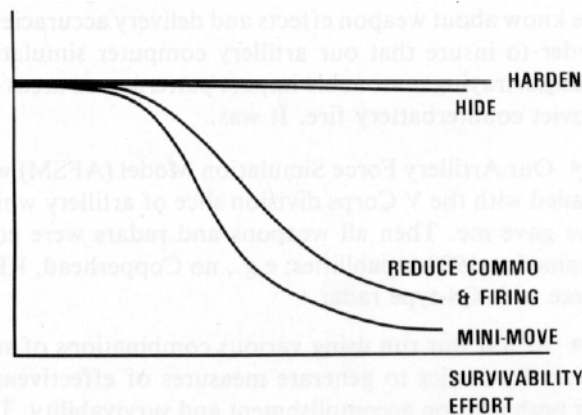

Figure 5. Hide and harden.
*Talk less, shoot less (from any one position).* On the two charts in figure 5, the "reduce commo and firing" curves are pure intuition. Obviously holding down longwinded radio transmissions, rigging directional antennas, using low radio power, and avoiding volleys of fire coming out of one position helps survivability. But we still have to talk and shoot so there is a limit to what
*So hide (figure 5).* Get back into those treelines, get the camouflage up, shoot out of built-up areas, move in small groups. That has got to help survivability—but again there are limits. Hiding protects you from human, radar, and infrared "eyes," either airborne or on the ground. But shooting and talking make hiding tough. The curve is intuitive. So is the bottom chart curve on "hiding," but with confidence. It's pretty clear that "hiding" comes *cheap*. It doesn't degrade your ability to deliver effective fire at the right place and right time.
*Hardening (figure 5).* The bottom chart also suggests that "hardening" doesn't degrade your mission capability much. In an earlier letter I sent you expected damage estimates of our own artillery. They are also a fair estimate of Soviet capabilities in 1980. That means Soviet artillery is most effective against exposed personnel and that killing our relatively hard targets like SP howitzers is